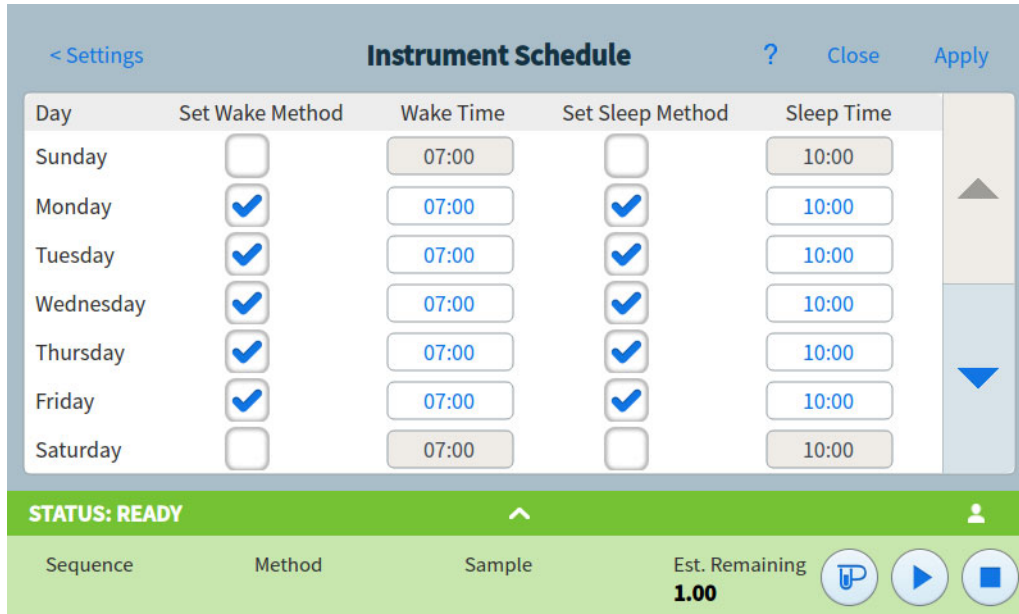

Figure 75. Instrument Schedule page
- 1 Select **Scheduler**. The Instrument Schedule page appears. See **Figure 75**.